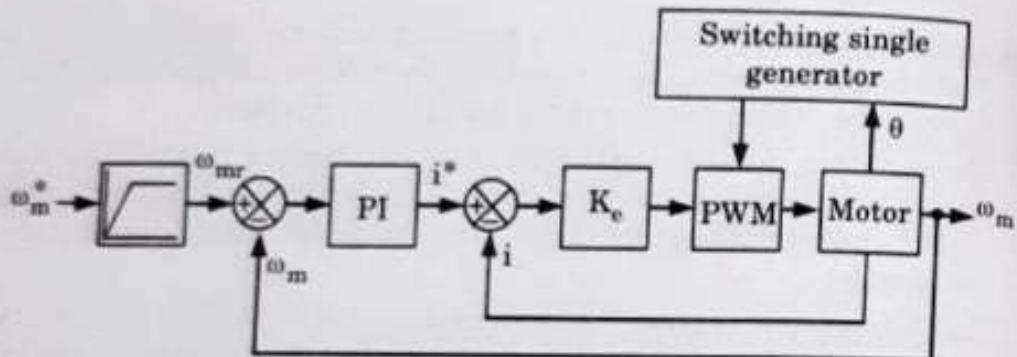

Fig. 3.11.1. Simplified closed loop model of SRM.
6. Simplified model of the closed loop control of SRM is shown in Fig. 3.11.1.